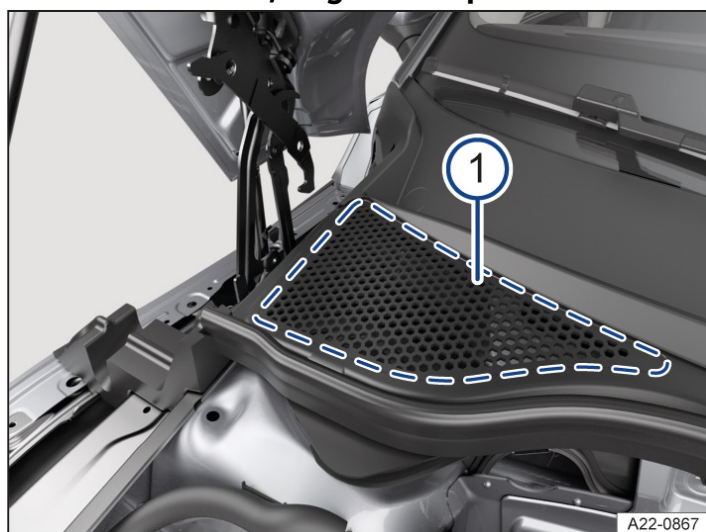

Fig. 1 Between the engine compartment and the windscreen: plenum chamber (illustration).
- Have the area under the perforated cover cleaned regularly by a suitably qualified workshop *→ Fig. 1* ¹. Volkswagen recommends using a Volkswagen dealership.
- Remove leaves and other loose objects with a vacuum cleaner or by hand *→ Fig. 1*.